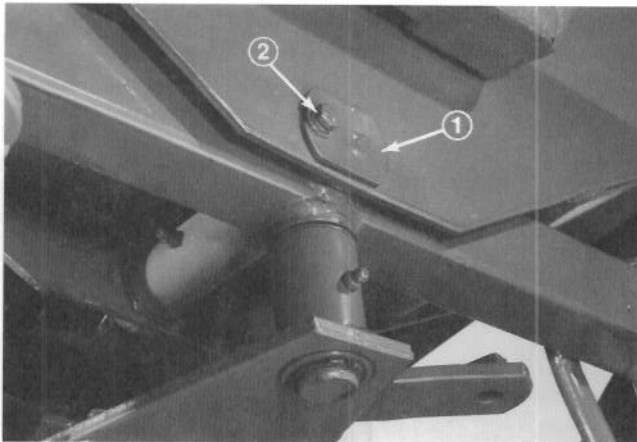
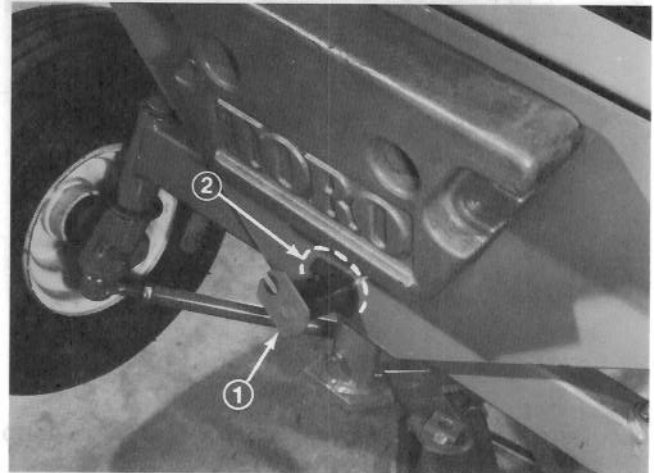

Figure 41
Figure 43
3. Remove capscrew, lockwasher and flatwasher holding outside of axle pin to chassis (Fig. 41).
9. Move rear axle into position at rear of machine. Mount axle between two sections of frame with axle pin and two thrust washers (Fig. 43). The thrust washers must be positioned at ends of the axle pivot tube and between both sections of the frame. Secure axle pin in place with capscrew, lockwasher and flatwasher (Fig. 41).
12. Move rear axle into position at rear of machine. Mount axle between two sections of frame with axle pin and two thrust washers (Fig. 43). The thrust washers must be positioned at ends of the axle pivot tube and between both sections of the frame. Secure axle pin in place with capscrew and lockwasher (Fig. 41).